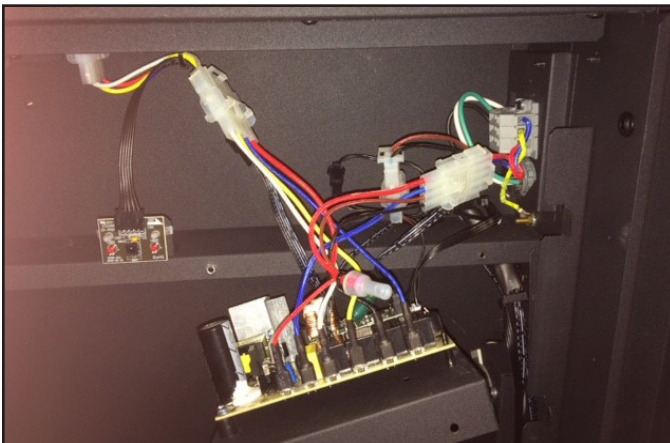

Figure 24. Unplug Control Board
24. Unplug the five (5) pin and socket connectors between the Control Board and the wire harnesses. Tag and label the wire harnesses to ensure that wires will be reconnected correctly. See Figure 24.